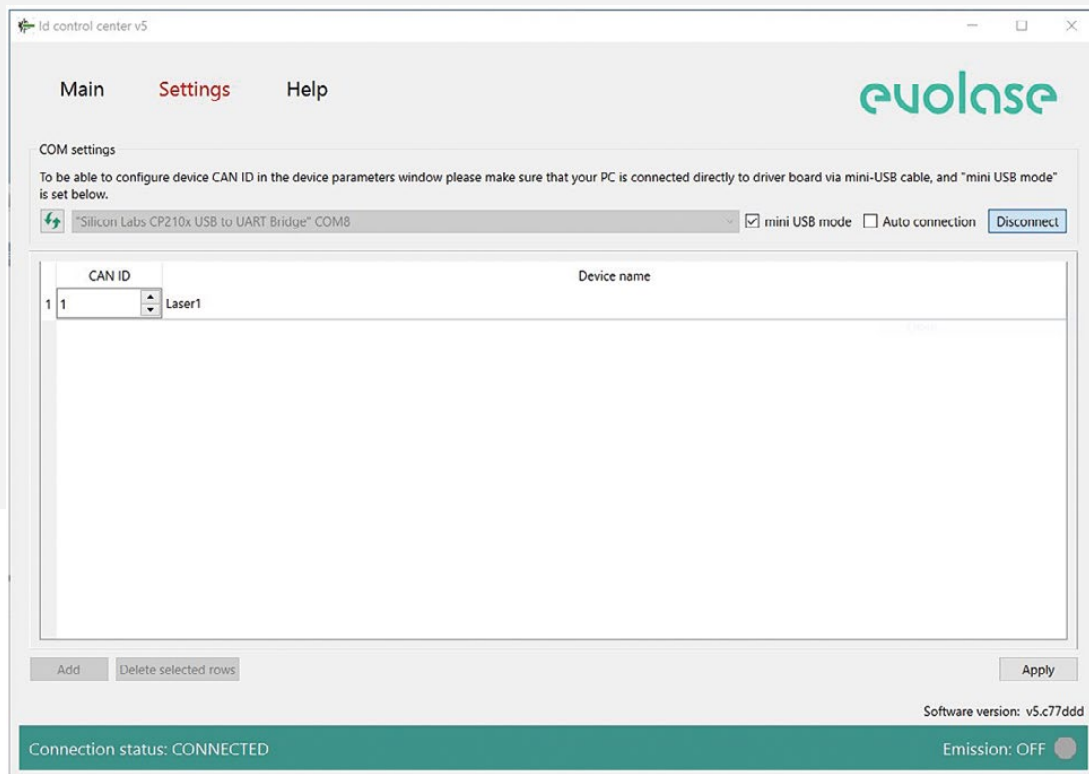

Figure 1: The system configuration menu
5. Click "Settings" to enter the program configuration menu (fig. 1)
The system configuration window (fig. 1) is accessed by pressing “Settings” in the navigation bar. In this window the user can set the number of channels, CAN network ID and the names for the connected drivers.